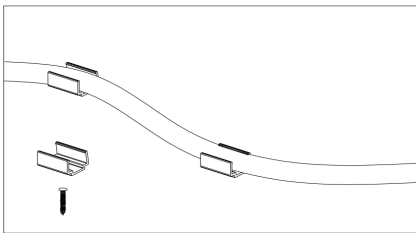

Figure 1
- Fix mounting clips with nails or screws onto support surfaces. (Figure 1、2、3)